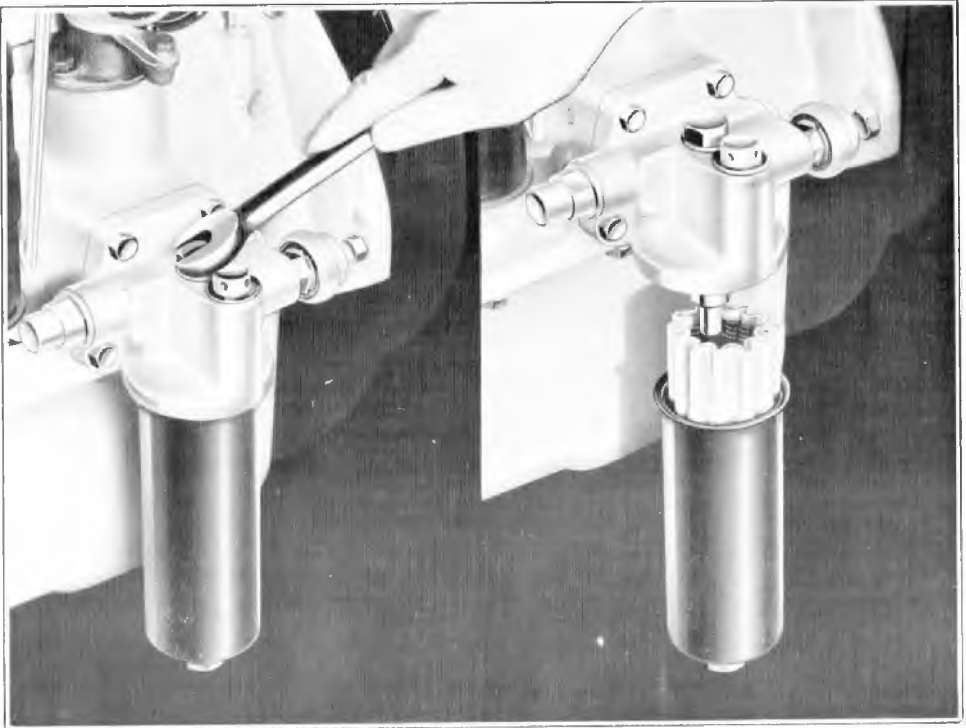

Fig. 17
- (c) Whilst the sump is draining into the container, unscrew the nut on top of the oil filter (See Fig. 17), and remove the element. Wash the element in clean petrol. A new element should be fitted every 20,000 miles.